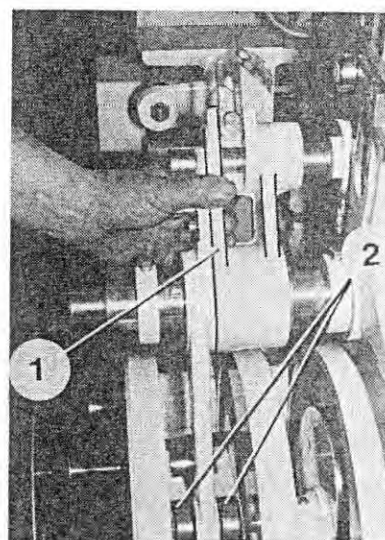

Fig. 246
5. Move the dosing lever (Figure 246/1) in such a way that the cam rollers (Figure 246/2) are not engaged any longer.